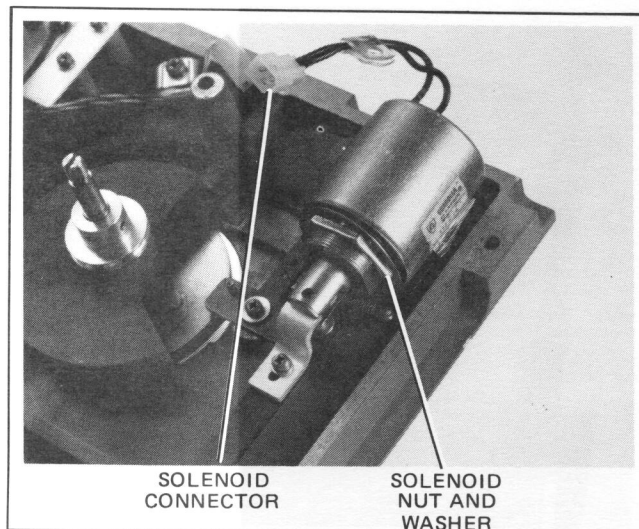

Figure 5-47. Reel Motor Brake Solenoid Removal
- Remove the 1-1/8-inch hex nut and lock washer from the brake solenoid (see Figure 5-47).